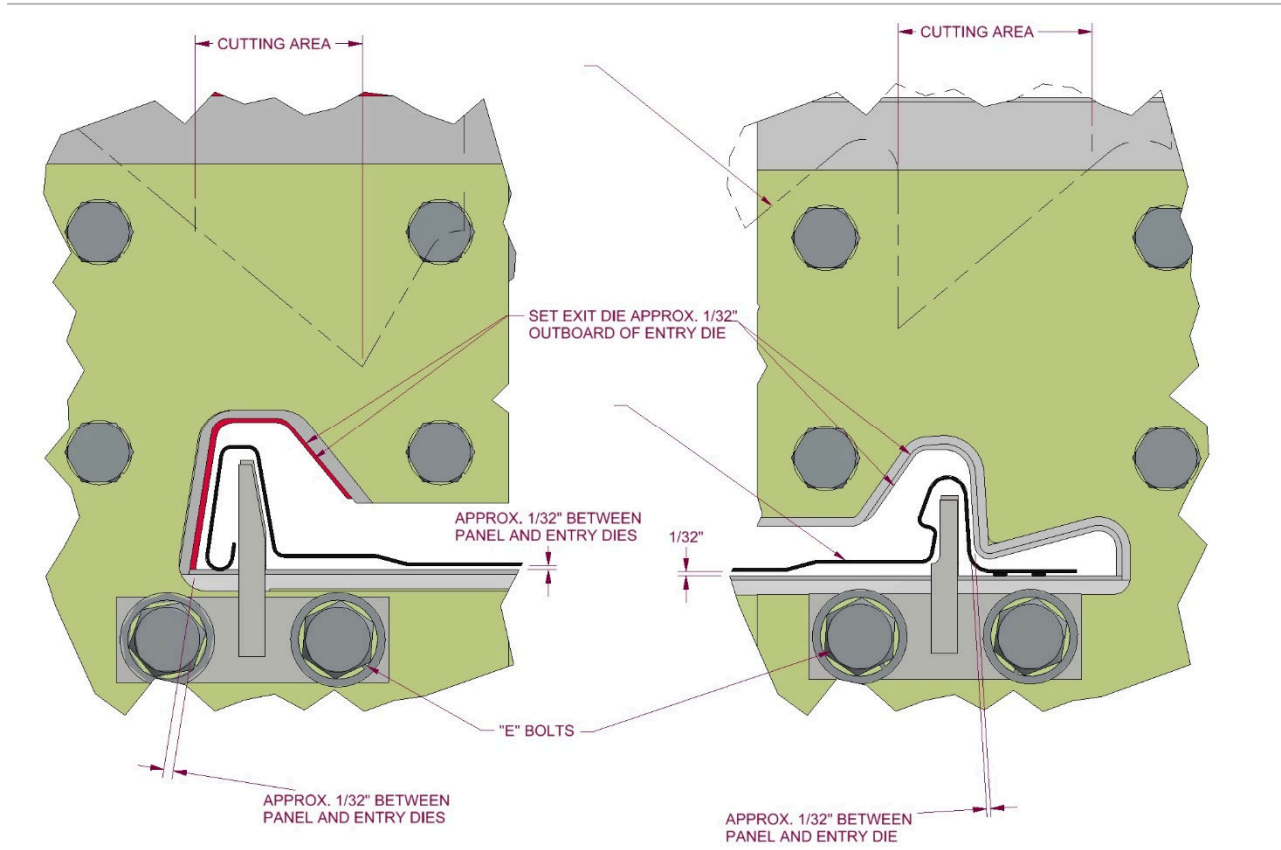
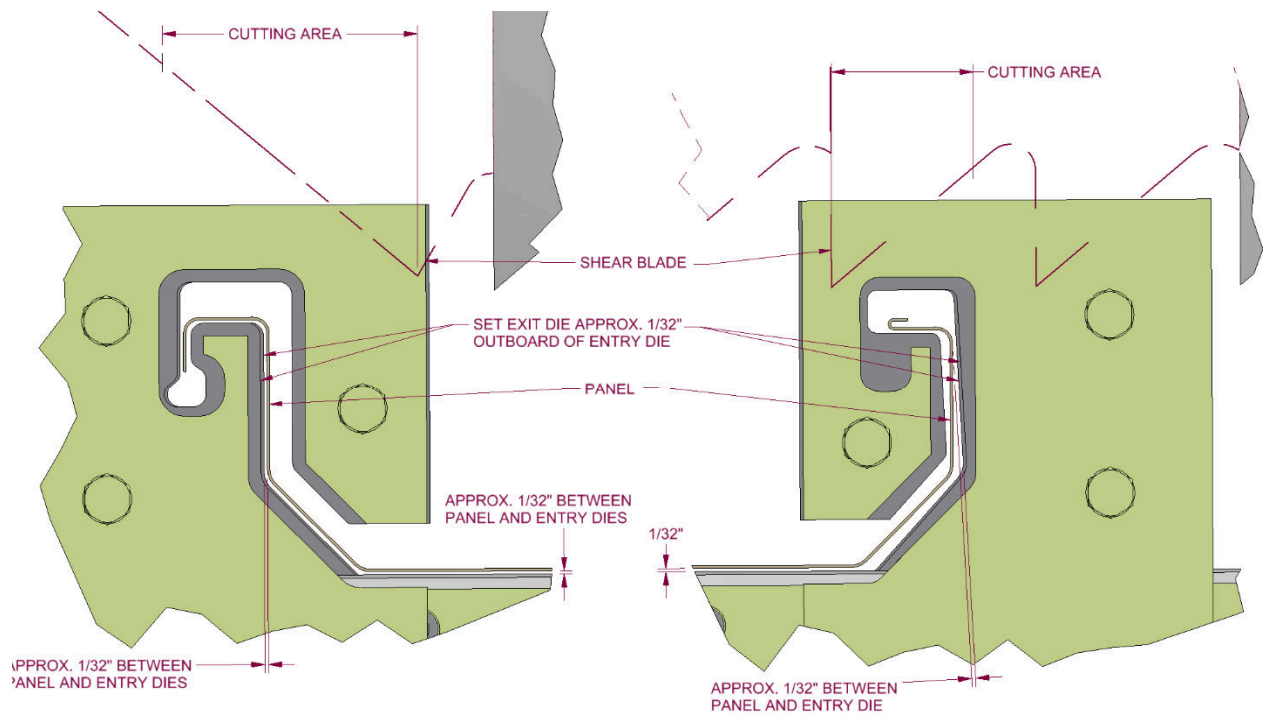

Figure 31: FF100 Shear Dies
Figure 40: TRQ250 Shear Dies
Bottom Shear Dies (**Figure 31** through **Figure 40**)
(**Figure 31** through **Figure 40**)
9. In order to cut properly, the **Top Blades** need to be positioned so that one of the #2 Blade tips is just to the inside of the male leg, as shown in Figure 31-Figure 40 and also the tip of the #1 blade is positioned to the inside of the female leg as shown in Figure 31-Figure 40. The rake or angle of the blades should cut in a scissor action outward against the legs. If necessary, loosen the 7 "D" bolts and move the Top Blades left or right to get them in the correct position. Retighten the bolts.